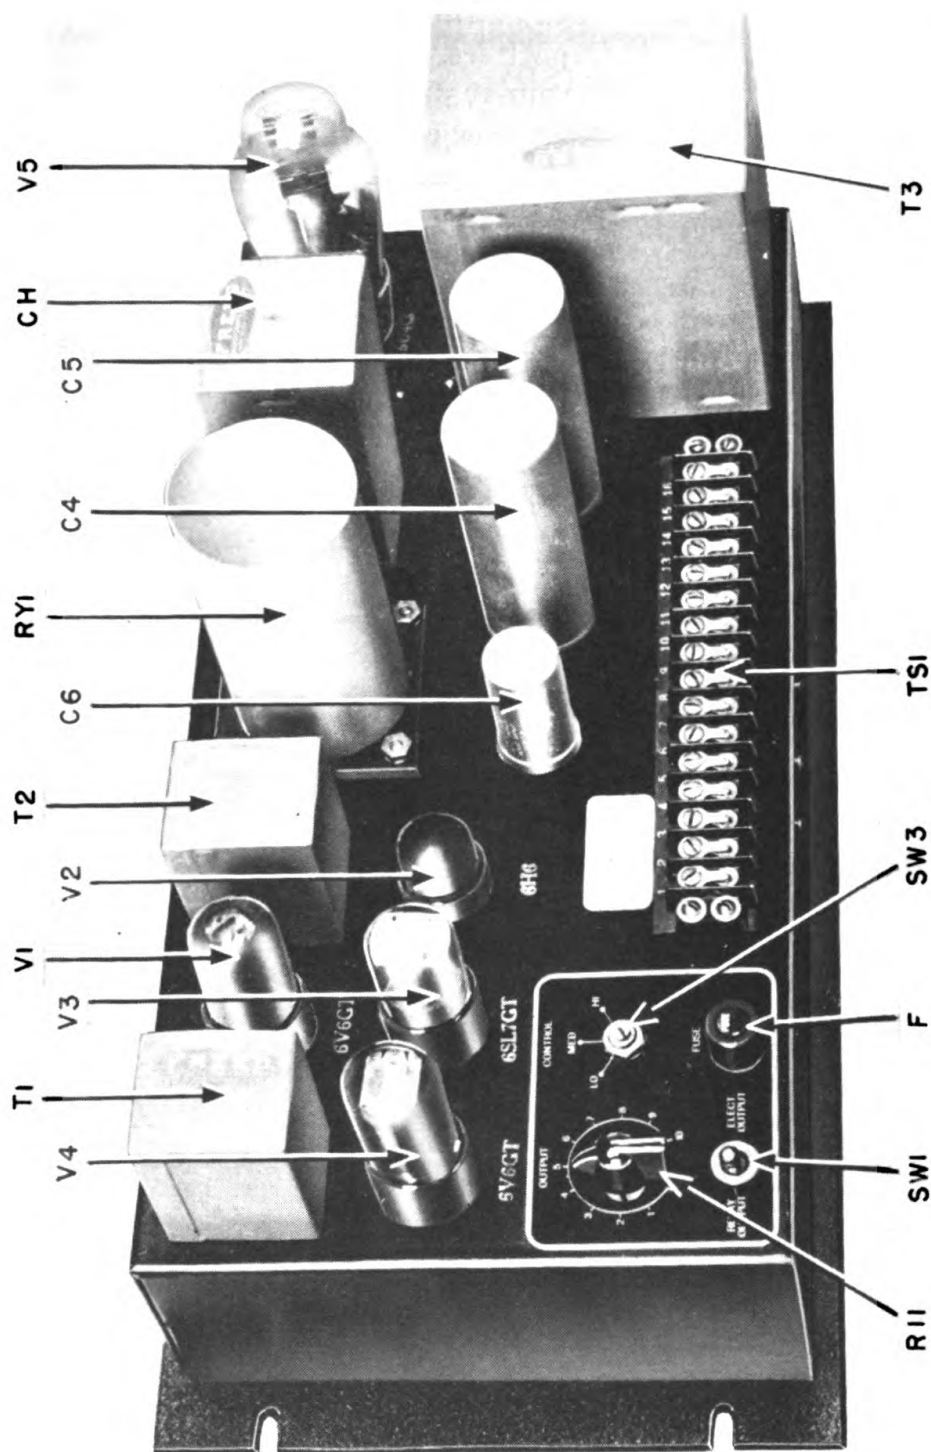

Figure 9. Keyer KY-7/FRT, outside chassis, maintenance.
31. ITEM 2, OUTSIDE CHASSIS (fig. 9).